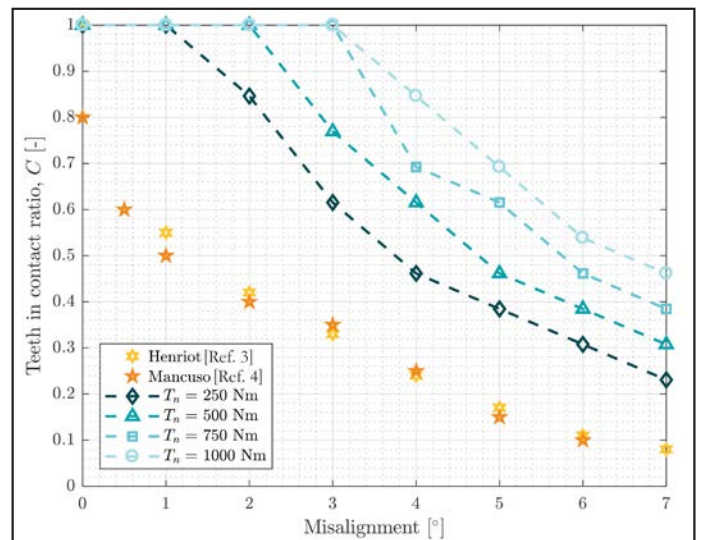

Figure 4 Numerically estimated ratio of the teeth in contact ( $C$ ) and reference values (Refs. 3–4).
**Number of teeth in contact.** The contact status of the finite element model has been analyzed in order to determine the number of teeth in contact for each condition. Figure 4 shows a comparison of the computed  $C$  values (ratio of the teeth in contact) at different torque and misalignment conditions with values from literature.